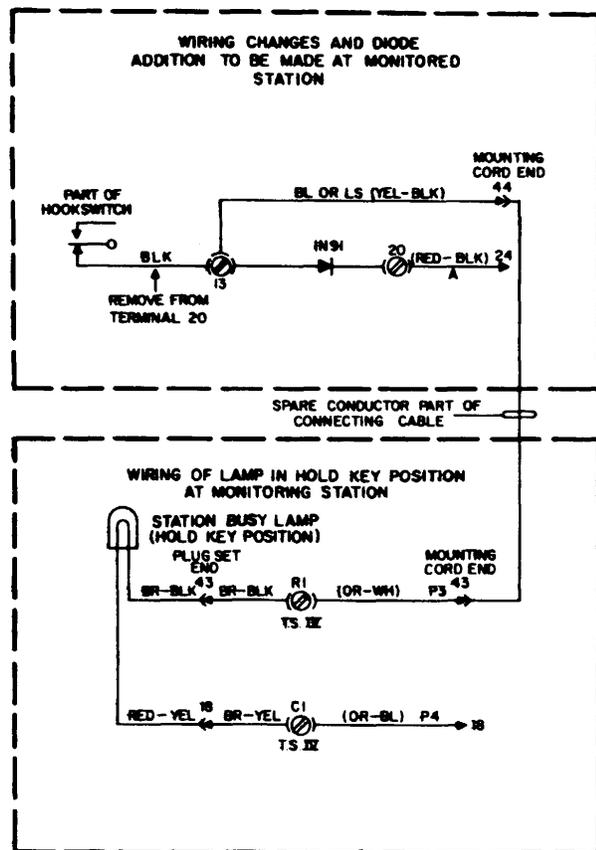

Figure 7. Conversion for Station Busy Indication.
4.19 To provide the station busy feature, the master (monitored) station and all other monitoring stations that have access to the same line must be modified. Use the following procedure to modify the master station (refer to Figure 7).
4.20 Use the following procedure to modify the monitoring stations (refer to Figure 7):